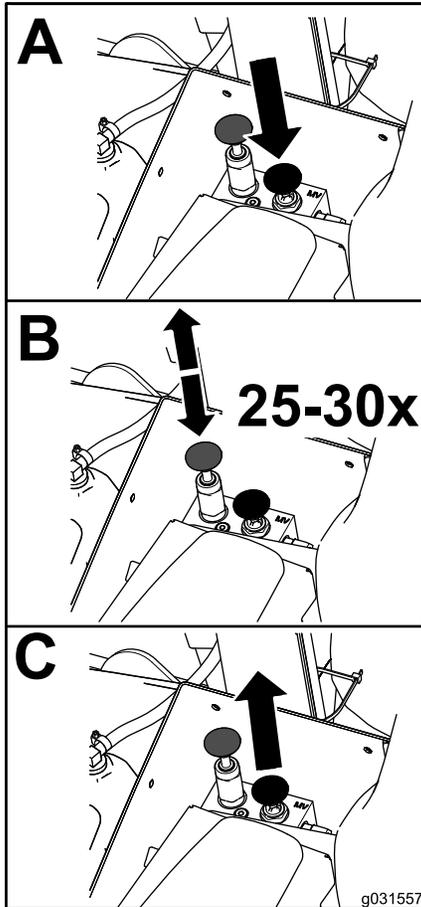

Figure 76
1. Bypass valves (2)
4. Manually release the automatic parking brake using the bypass valve and plunger as shown in Figure 76.